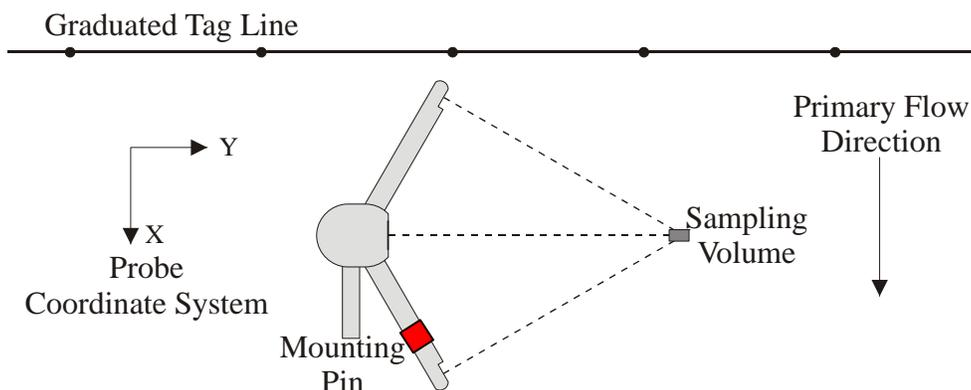

Figure 28 – FlowTracker Probe Orientation Relative to Stream Flow
- Figure 28 shows the proper orientation of the probe for discharge measurements.